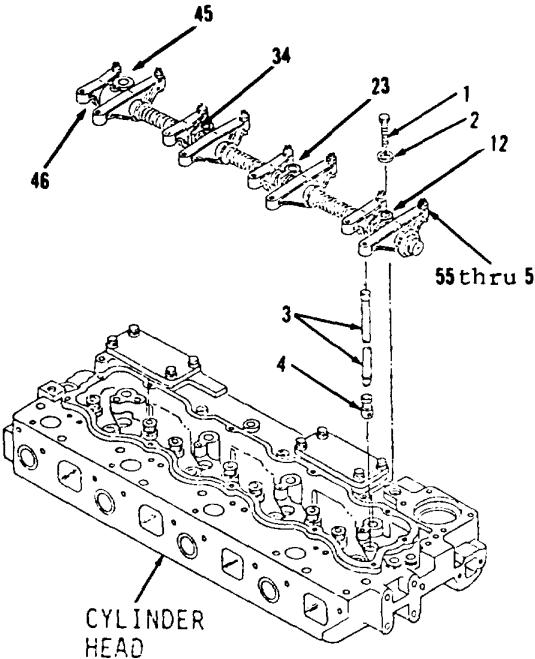

Figure 3-47.
- 33. Lubricate eight lifters (4) and push rods (3) with clean oil and install in cylinder head in original positions. Install flat end of eight lifters (4) first and ball end of push rods (3) to mate with lifters (4, Figure 3-47).
- 34. Cover threads of one bolt (1) with tape to protect preformed packing (46) in bracket (45).
- 35. Install washer (2) and bolt (1) with taped threads through bolt hole in bracket (45), then remove tape.
- 36. Install three washers (2) and bolts (1) through brackets (34, 23 and 12).
- 37. Apply anti-seize compound to threads of four bolts (1).
- 38. Install items 55 thru 5 and 2 and 1 as an assembly.